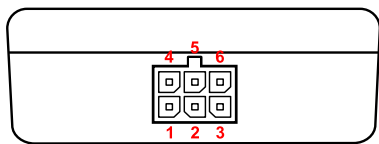

Fig. 3. Interface connector
- The connection diagram is shown on fig.3. The figure displays the TK-OBD2LOG connection to the AutoGRAPH-GSM controller. This diagram is applicable for another AutoGRAPH Series on-board controllers.